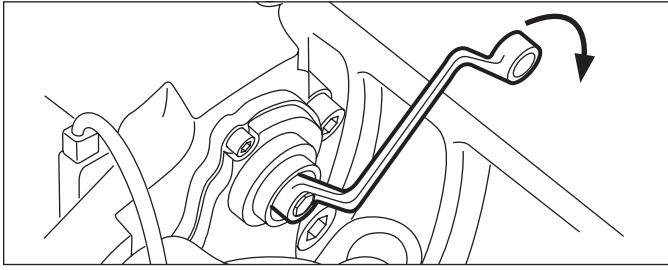

Figure 39 – Running Clearance Adjustment
- 4.2.18 Using a 10 mm, six-point box-end wrench, turn the shear adapter (61) **clockwise** until the pads contact the rotor. **NOTE:** Do not use an open-ended wrench as this may damage the adapter. See Figure 39.